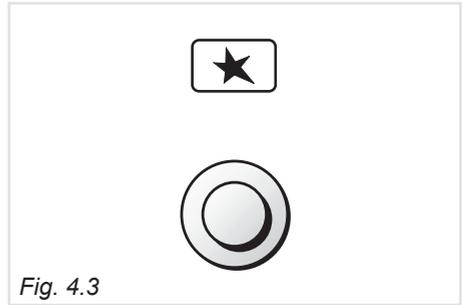

Fig. 4.3
2. Press the button marked with a star symbol (fig. 4.3) and keep pressed until the oven burner ignites.